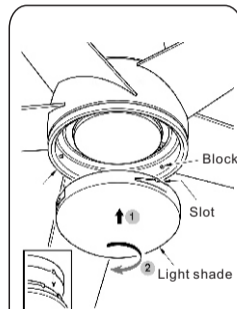

Fig.15
Step 6: Align the slot of the light shade with the aised dimple on the light kit plate and turn it clockwise until it stops.(Fig. 15)